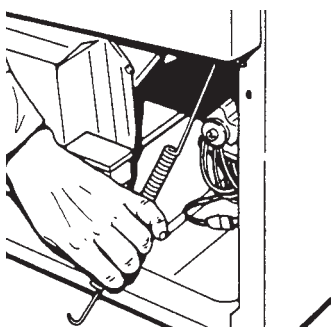

Fig. 4-32
2. Pull down and unhook and remove the left and right door springs. (Fig. 4-32)